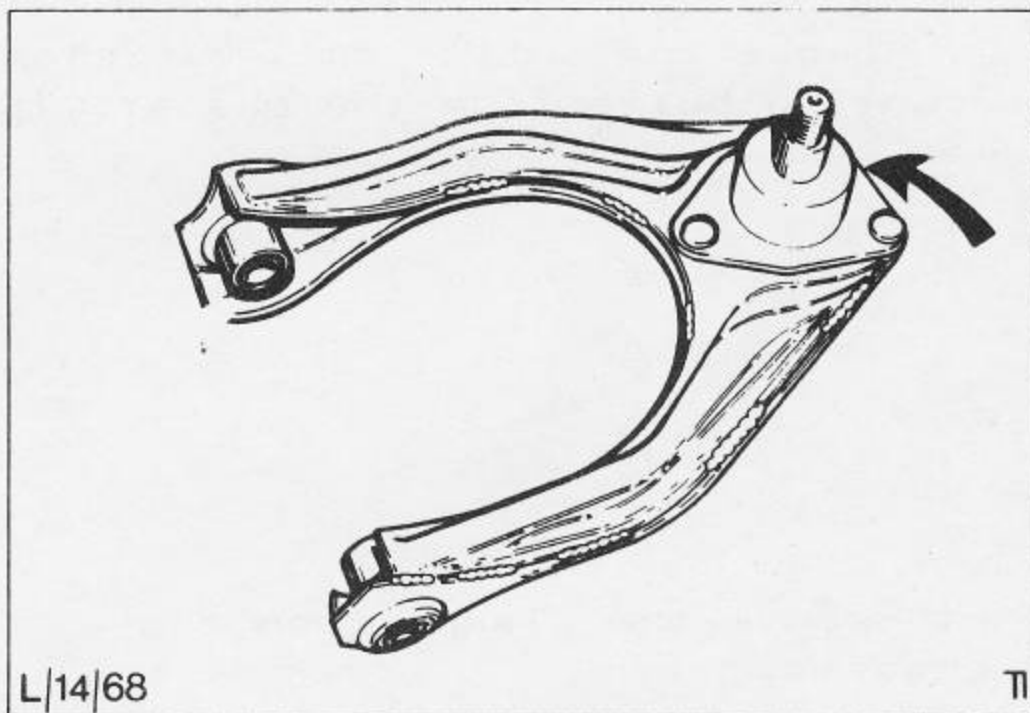

Fig.47 Ball joint location.
4. Bolt replacement joint into position and grease. Fig.47